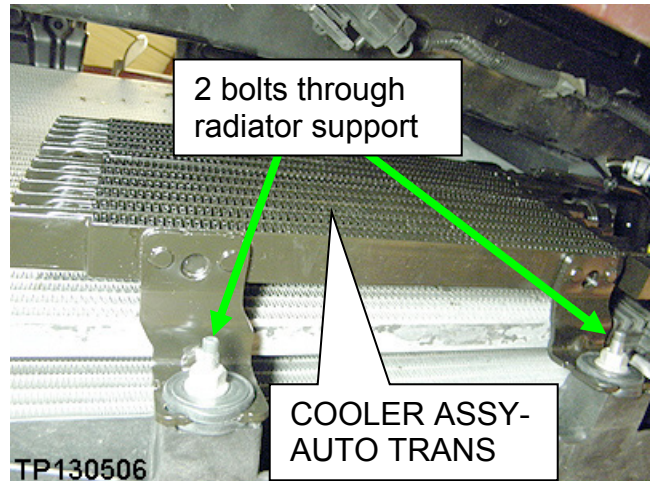
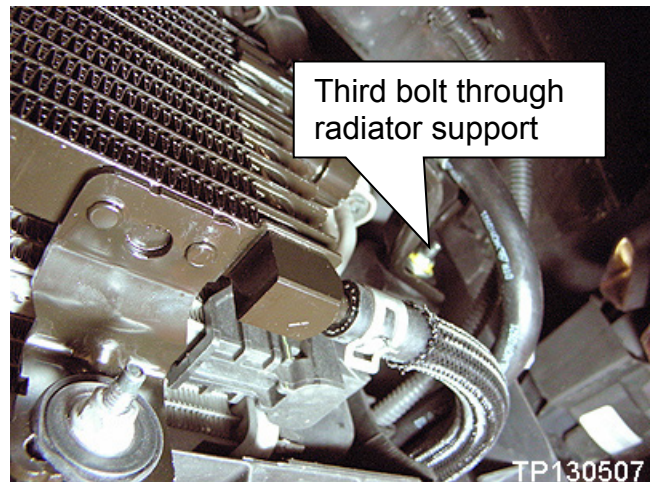

Figure 5
Figure 6
- a. Insert 3 bolts (Figure 5 and Figure 6) from the kit through the composite radiator support from the engine compartment side.
NOTE: Figure 5 is a view of the front of the radiator/condenser, taken from the bottom looking up.
3. Route both hoses through the radiator support shown in Figure 6.